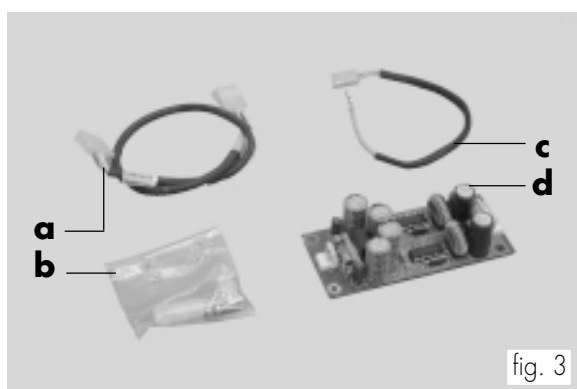
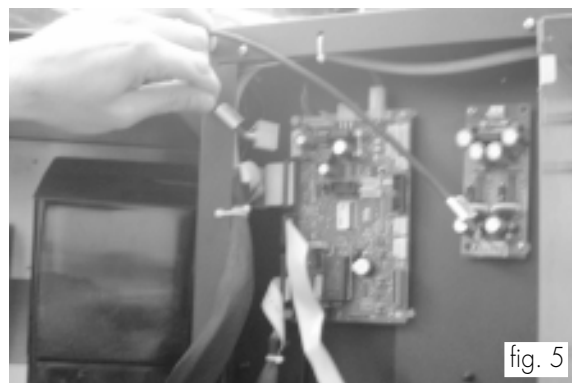

fig. 3
fig. 5
#### Assembly kit (fig. 3)
- Open the upper door and fasten (fig. 4) the payment system power supply board (ref. d, fig. 3) to the same door by using the four screws and spacers (ref. b, fig. 3).
- Connect the wiring harness (ref. a, fig. 3) to the payment system power supply board as well as to the CPU card (fig. 5). See instructions on harness to carry out the connection.
- Connect the two-pin connector (ref. c, fig. 3) to the payment system power supply board. Connect the 2 contacts of the other end to the 2 free slots of the 4-pin connector that was previously unplugged from the CPU card (fig. 7).